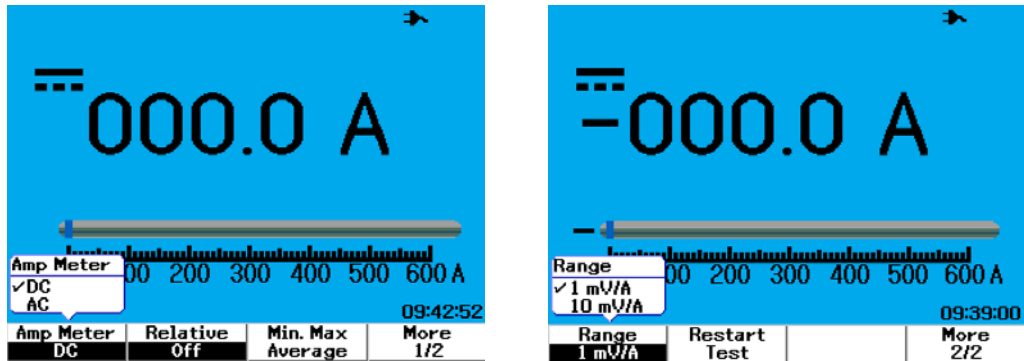

Figure 4-9 Current measurement
- 4 In the ampere meter submenu, press F1 to select AC current or DC current measurement (refer to Figure 4-9).
- 7 Press F1 in page 2/2 to select the measurement range (refer to Figure 4-9). The measurement range is selected based on the setting on the current adapter (1 mV/A or 10 mV/A).